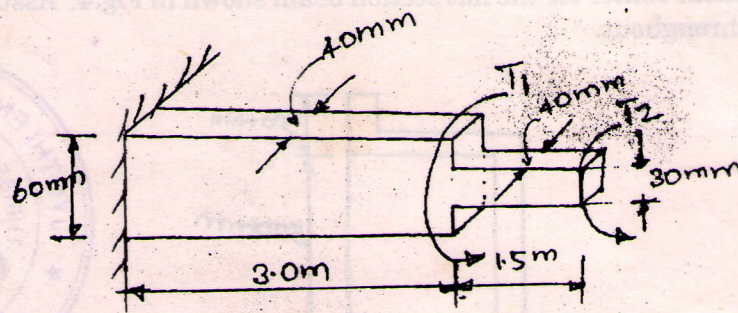

Fig. 6
5. (a) Determine the maximum shearing stress in the torsion member shown in Fig. 6 (on page 4).  $T_1 = 850 \text{ Nm}$ ;  $T_2 = 500 \text{ Nm}$ ,  $G = 77.5 \times 10^3 \text{ MPa}$ . The support prevents rotation of the cross-section but does not prevent warping of the cross-section. Use appropriate values of  $k_1$  and  $k_2$  given.